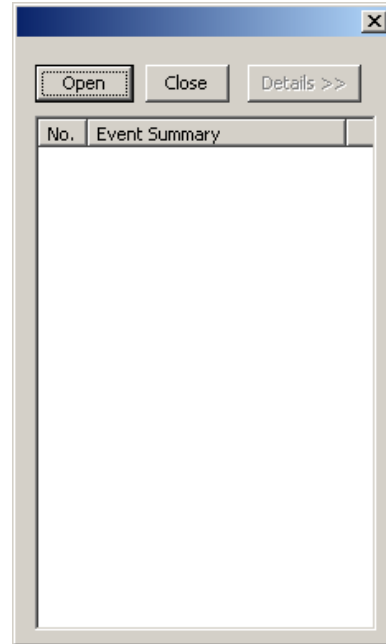

Figure 3-33 Sequence of Events Viewer
1. From the ISScom Main Screen menu select **System/Sequence of Events/View**. ISScom will display the Sequence of Events Viewer screen (Figure 3-33).